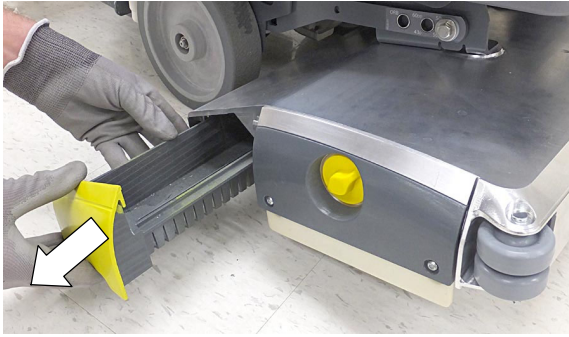

FIG. 23
2. Remove the debris tray by sliding it out from the scrub head (Figure 23).